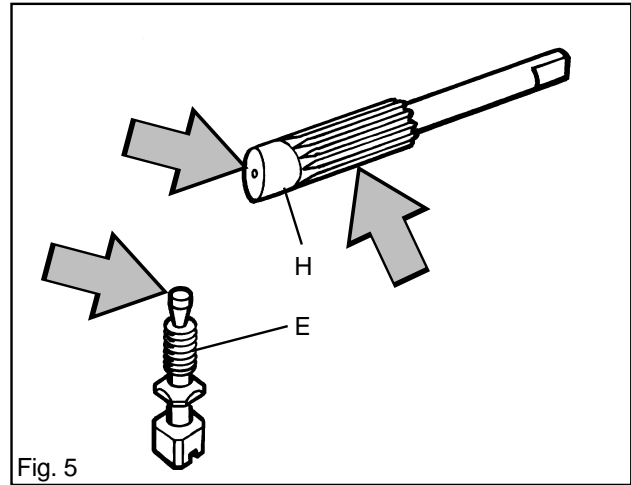

Fig. 5
1. The taper on the adjustment screw (E) does not show signs of wear. See fig. 5.
2. The pump piston (H) eccentric face does not show signs of wear. See fig. 5.
3. The pump piston pinion is undamaged. See fig. 5.
In idling mode (fig. 5) the throttle butterfly (H) is closed. Air is sucked through an aperture in the butterfly and a small amount of fuel is supplied through the diffuser jet (G).